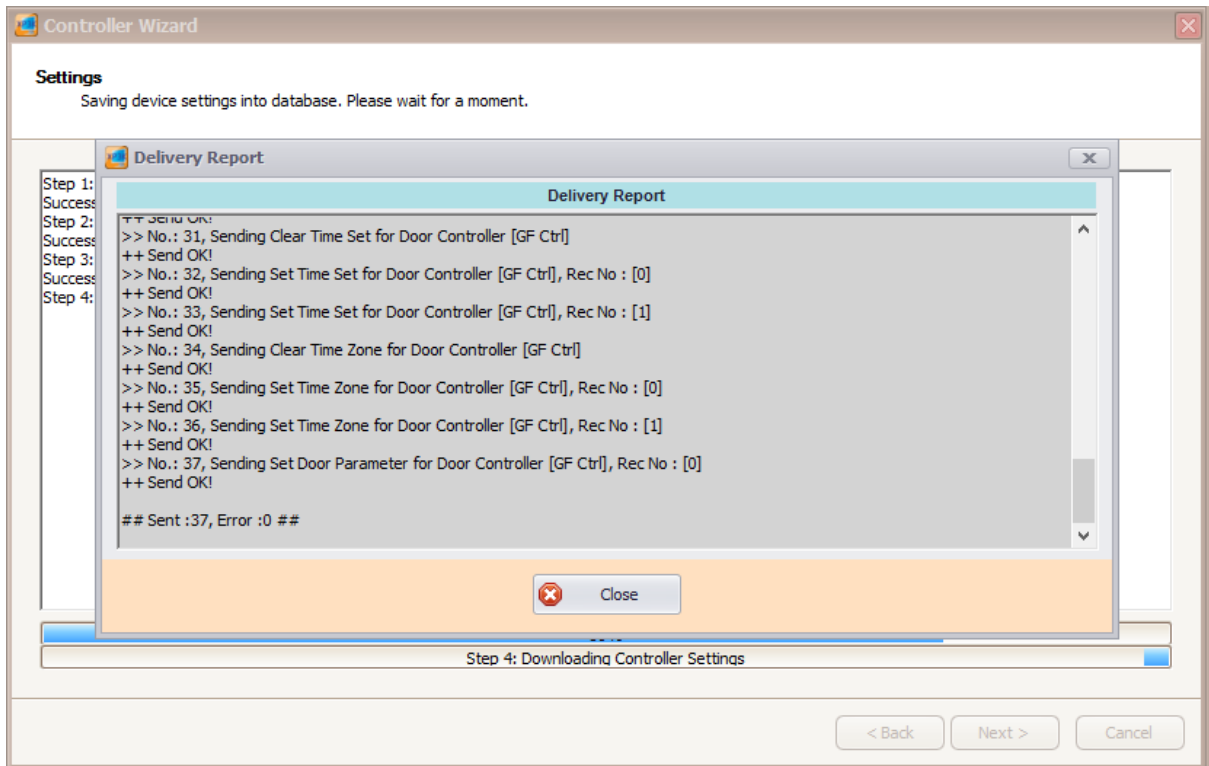

Figure 43 - Delivery Report
24. Make sure your delivery report has no error and all sending data is OK (Refer **Figure 43**).